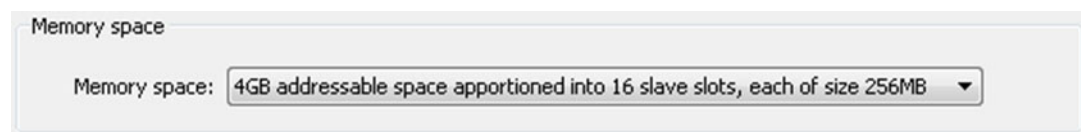

Figure 5-4 • Master/AHBLite Memory Space Configuration - 256 MB per slot
- If you need more than 16 MB and less than 256 MB of address space for any of your peripherals, select the option as shown in Figure 5-4. This mode provides 16 256 MB slots that can be used to connect up to 16 AHBLite slaves.